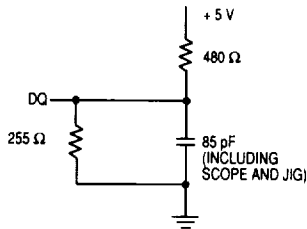

Figure 1A
Input Pulse Levels 0 to 3.0 V Output Load See Figure 1A Unless Otherwise Noted
2. A latched write cycle is defined by DL transitioning low during the write cycle and satisfying the specified hold time for the rising edge of clock (K).
3. Into rated load of 85 pF equivalent resistive load (see Figure 1A).